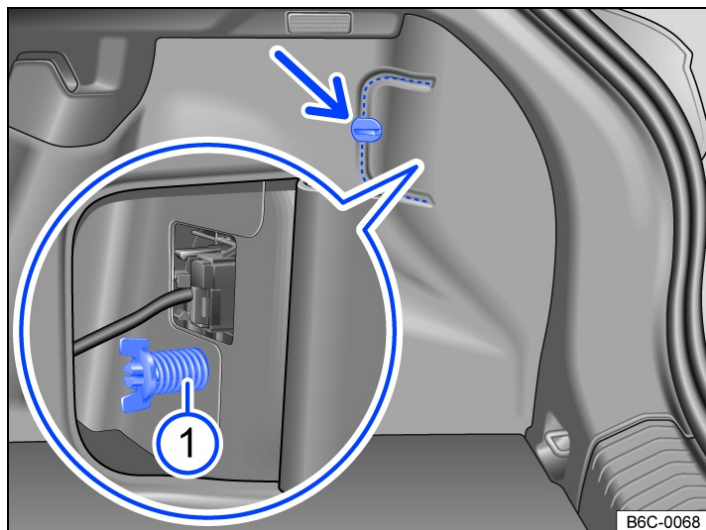

Fig. 1 In the luggage compartment: removing the tail light cluster.
3. Turn the rotary fastener → Fig. 1 (arrow) in the side trim of the luggage compartment to the side.